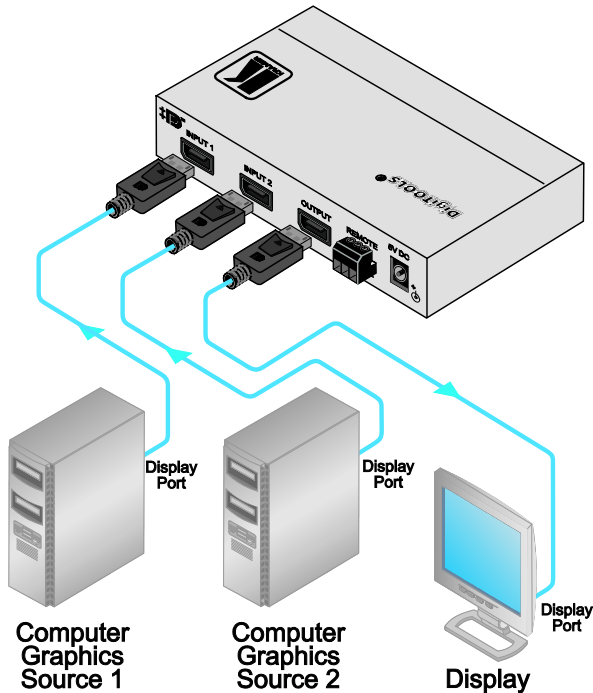

Figure 2: Connecting a VS-21DPIR 2x1 DisplayPort Switcher
To connect the VS-21DPIR, as the example in Figure 2 shows, do the following¹:
3. Connect the 5V DC power adapter to the power socket and connect the adapter to the mains electricity (not illustrated in Figure 2).